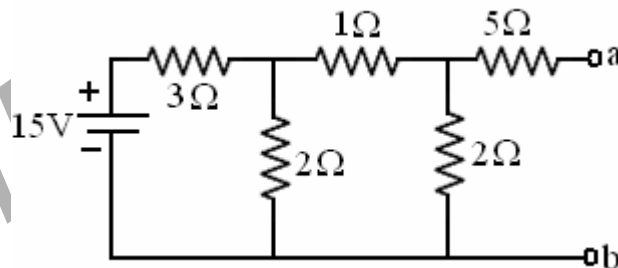

Figure 2
b) Determine the Thevenin's equivalent circuit across the terminals 'ab' (shown in Figure 2). [7+8]